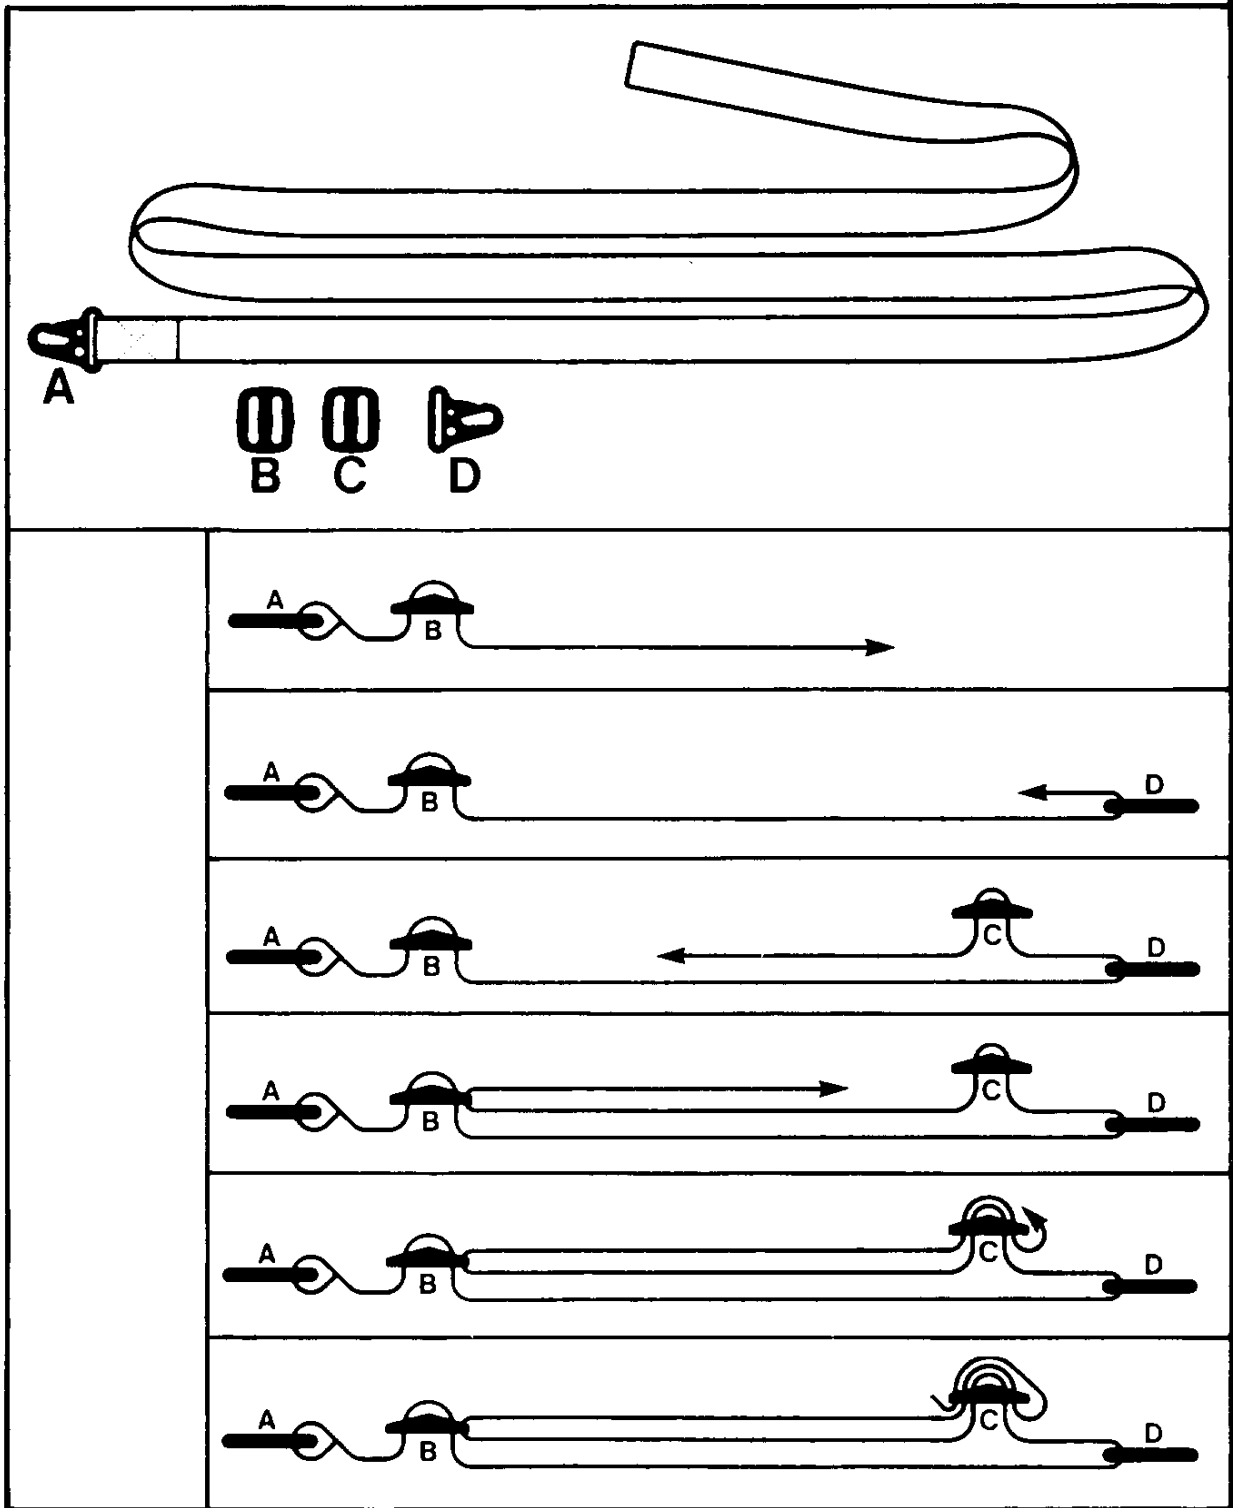

Figure 2-18 Sling Assembly
- b. Refer to Figure 2-18 for details.